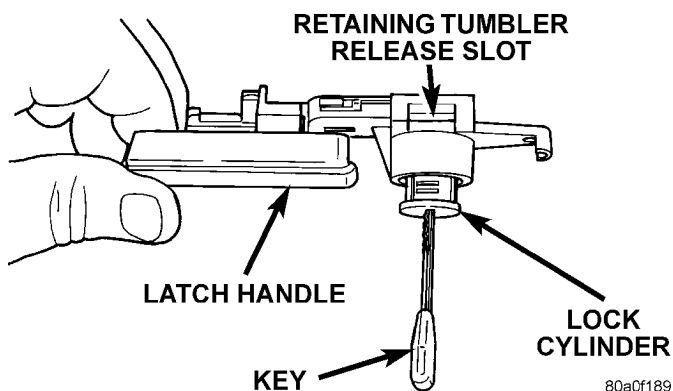

Fig. 20 Glove Box Lock Cylinder Remove/Install
(1) Remove the glove box latch and handle from the glove box. See Glove Box Latch and Handle in this group for the procedures.
(2) Insert the glove box key into the glove box lock cylinder.
(3) Insert a small screwdriver into the retaining tumbler release slot and depress the retaining tumbler (Fig. 20).